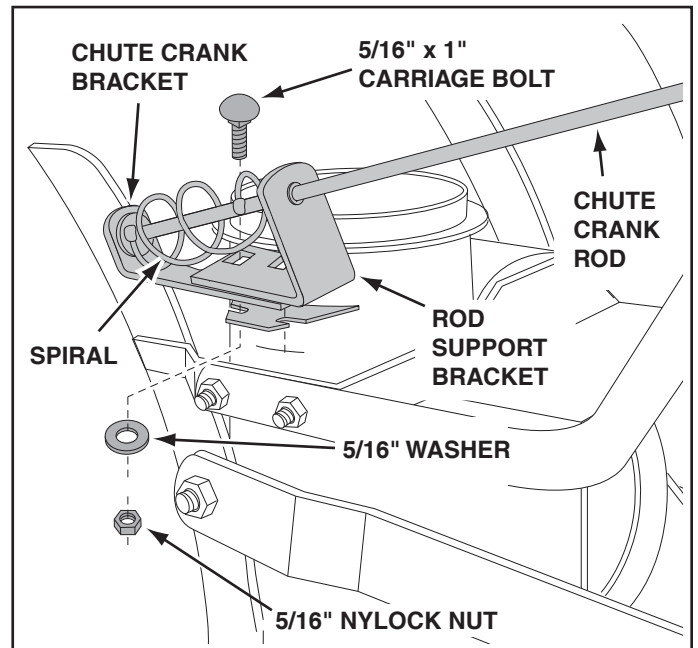

FIGURE 24
STEP 26: (SEE FIGURE 24)
- Position the crank rod spiral (see figure 24 on page 14) so that it does not rub against the bottoms of the notches in the chute flange. **Tighten** the nuts.